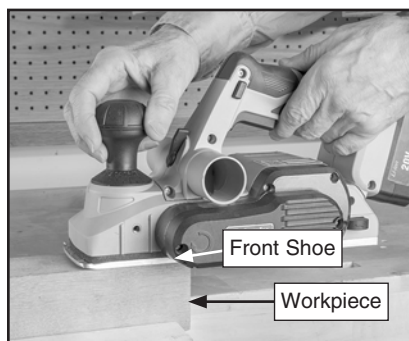

Figure 11. Front shoe flush with workpiece.
5. Rest front shoe flat against workpiece without cutterhead contacting workpiece (see **Figure 11**).